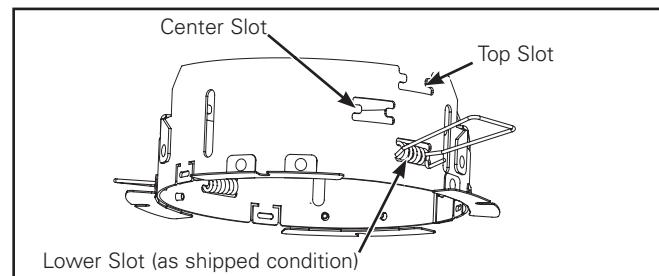

Figure 27.
3. The ring can be adapted to various ceiling thicknesses and plaster frame/housing heights by using the different slot locations for the mounting springs. By default the LD6ART and LD67ART are shipped with the springs in the top position for a 2" thick ceiling or housing. For ceiling thicknesses 0.5 inch to 0.75 inch use the lower slot and for thicknesses greater than 0.75" but less than 1.5" use the center slot (Figure 27).